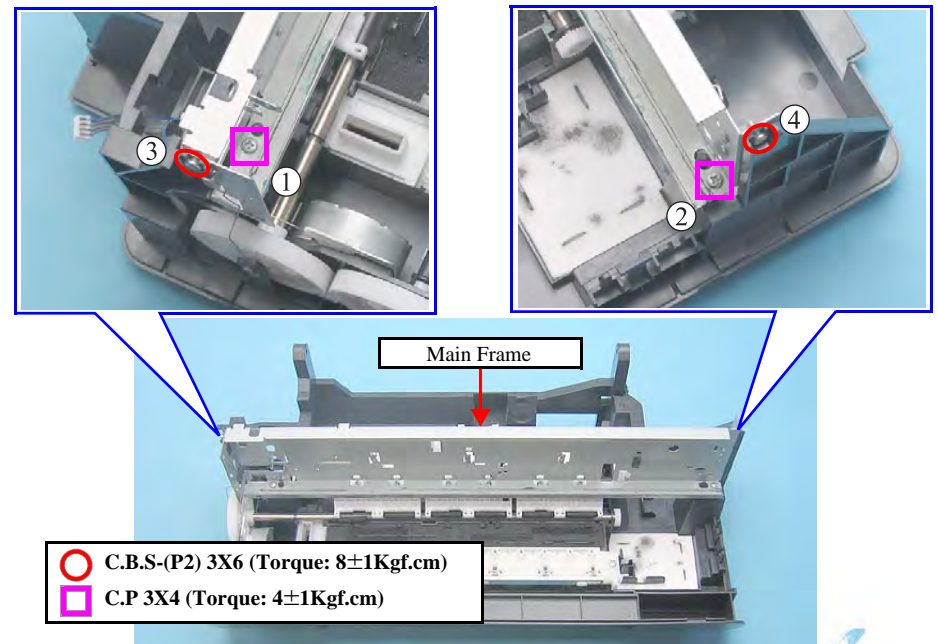

Figure 4-69. Removing Main Frame (1)
- When securing the Main Frame to the Frame Base with screws, be sure to perform the tightening in the order of the numbers indicated in Figure 4-69 (p.87).